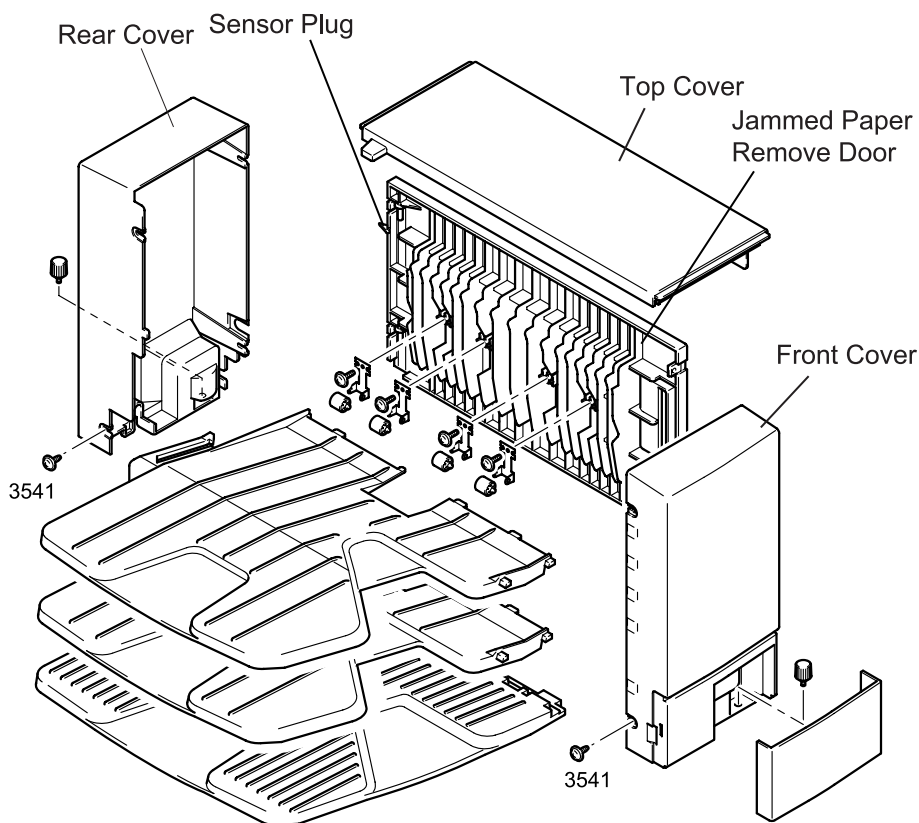

Figure 4-12. Front Cover Removal
2. Remove four screws (3541) securing the Rear Cover to the 5-Bin Unit, and remove the Rear Cover by pulling it to the rear. (See Figure 4-12.)